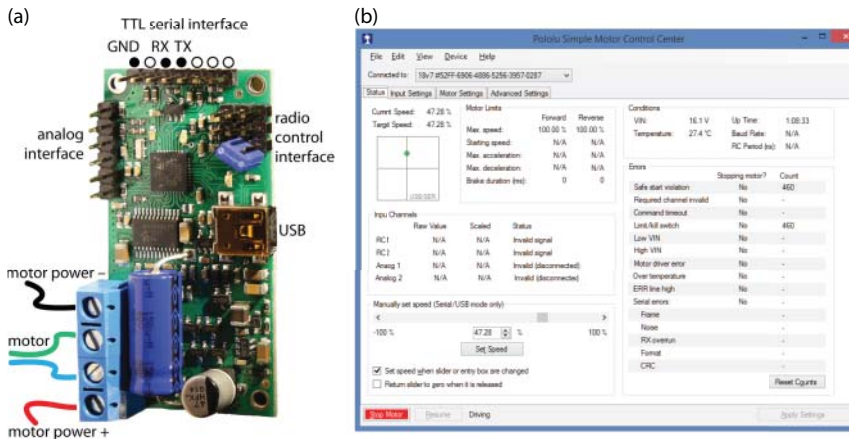

Figure 10-5: (a) The Pololu Simple Motor Controller, and (b) the associated motor configuration tool
The Pololu *Simple Motor Controller* family (\$30–\$55), illustrated in Figure 10-5(a), supports powerful brushed DC motors with continuous currents of up to 23 A and maximum voltages of 34 V. It supports USB, TTL serial, analog, and hobby radio-control (RC) PWM interfaces. The controller uses 3.3 V logic levels, but it is also 5 V tolerant.
Despite its name, this is an advanced controller that can be configured with settings such as maximum acceleration/deceleration, adjustable starting speed, electronic braking, over-temperature threshold/response, etc., which makes it a good choice for larger-scale robotic applications. The controller can be configured using a Windows GUI application, as illustrated in Figure 10-5(b), or by using a Linux command-line user interface. The Windows configuration tool can also be used to monitor motor temperature and voltage conditions and control the speed settings, braking, PWM, communications settings, and so on over USB, even while the motor is connected to the RPi with a TTL serial interface.
The Simple Motor Controller can be configured to be in a serial ASCII mode, whereupon it can be controlled using a UART device from the RPi with minicom. For example, with ASCII mode enabled and a fixed baud rate of 115,200 (8N1) set in the Input Settings tab (see Figure 10-5(b)), the RPi can connect directly to the motor controller and issue text-based commands to control the motor, such as `v` (version), `F` (forward), `B` (brake), `R` (reverse), `GO` (exit safe-start mode), `x` (stop), etc. See the comprehensive manual for the full list of commands (tiny.cc/erpi1003):